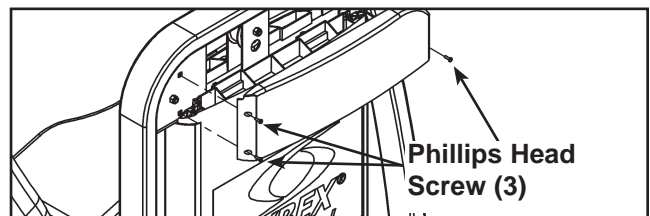

Figure 5
E. Remove the three Phillips head screws securing the top (back) shroud and carefully remove the shroud. See Figure 5.